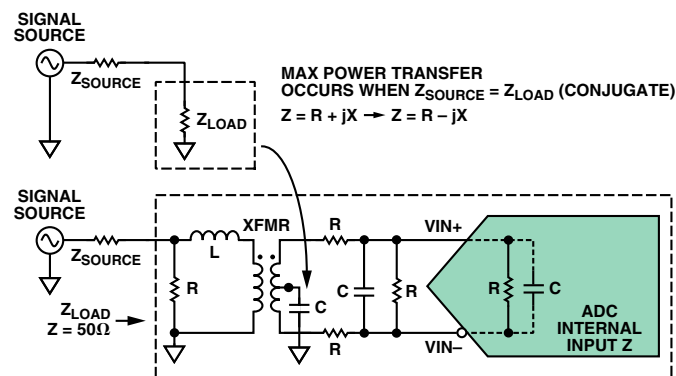

Figure 4. Maximum power transfer.
A. First, it is paramount that everything be taken into account when designing an ADC front end! Each component should be viewed as part of the load on the previous stage; and maximum power transfer occurs when $Z_{\text{SOURCE}} = \text{conjugate } Z_{\text{LOAD}}$ (Figure 4).